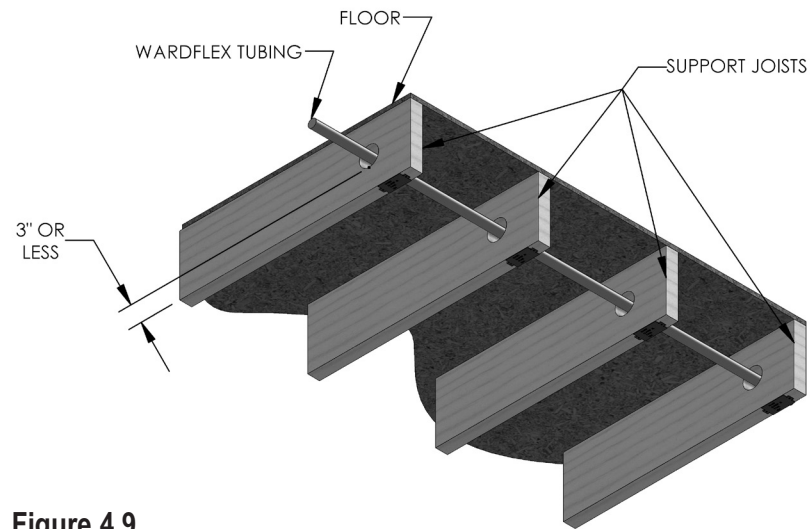

Figure 4.9
- Should an unfinished ceiling (I.e. basement) be covered at a later date, the quarter striker plates, shown in figure 4.9 and 4.10, should be replaced with appropriate protection devices that provide adequate protection for potential penetration threats.
- Although figures 4.9 and 4.10 are acceptable, installation method 4.11 is preferred.